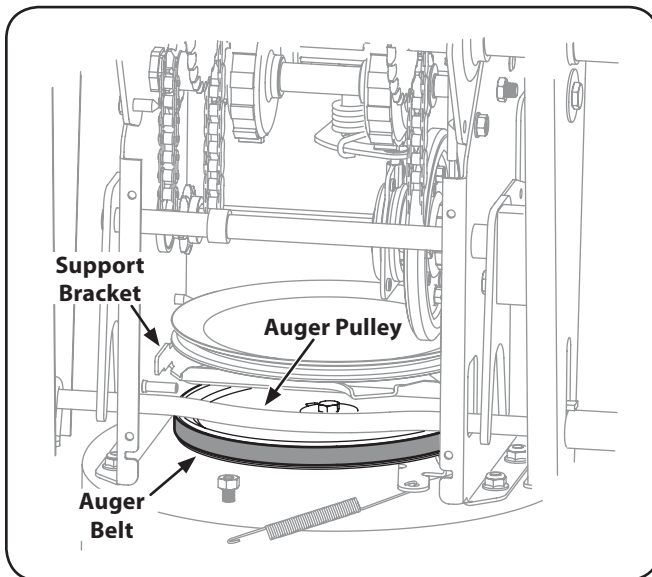

Figure 7-5
- Lift the auger belt from the auger pulley, and slip belt between the support bracket and the auger pulley. See Fig. 7-5.